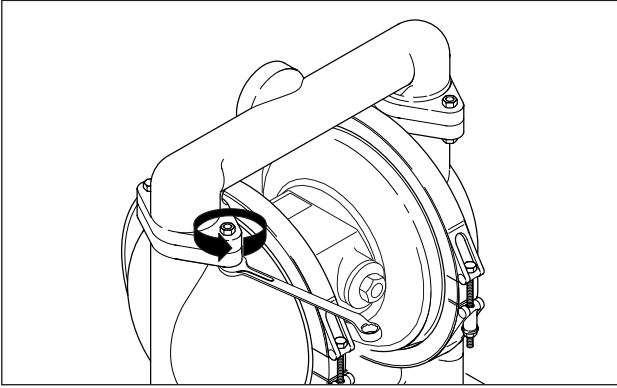

Fig. 9: Removing suction and pressure ports.
- Loosen the screws and disassemble pressure and suction sockets (Fig. 9).